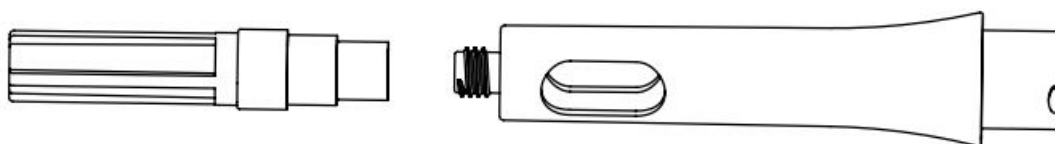

Figure 1
- According to clinical needs, select the specifications of the disposable injection needle for oral cavity, install the needle on the front end of the cartridge holder, and rotate it to tighten. [Figure 1].